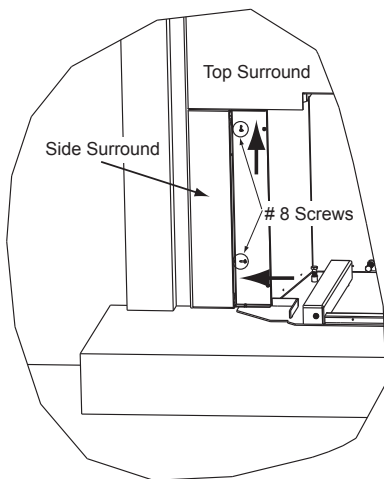

Figure 20.3
6. Install the surround set and trim set to the outer can. Secure the top and side surrounds as shown in **Figure 20.3**.